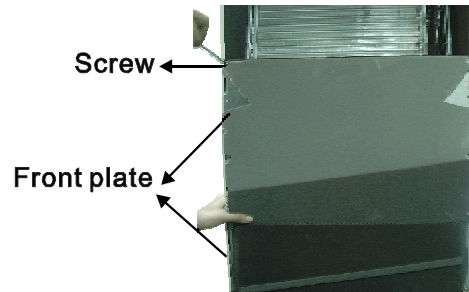

Fig 13
1.After removing the discharge grille and the front panel, loosen the screws of the front plate and remove the plate.(Fig 13)